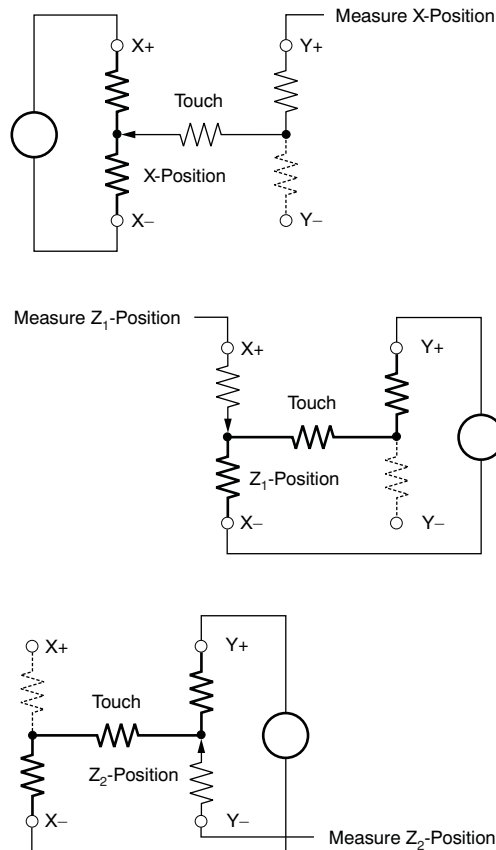

Figure 21. Pressure Measurement
Measuring touch pressure (Z) can also be done with the TSC2007. To determine pen or finger touch, the pressure of the *touch* must be determined. Generally, it is not necessary to have very high performance for this test; therefore, 8-bit resolution mode may be sufficient (however, data sheet calculations will be shown with the 12-bit resolution mode). There are several different ways of performing this measurement. The TSC2007 supports two methods. The first method requires knowing the X-plate resistance, the measurement of the X-Position, and two additional cross panel measurements (Z_2 and Z_1) of the touch screen (see Figure 21). Equation 1 calculates the touch resistance: